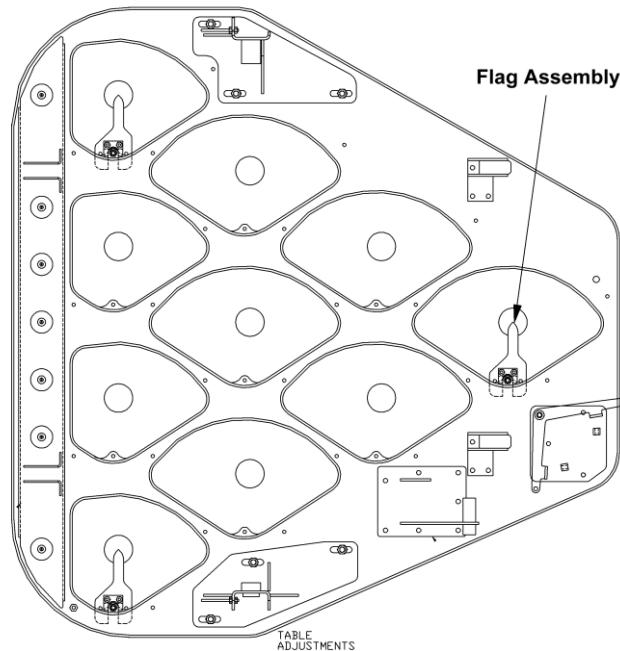

Figure 4.2-8
1. With the Table and Sweep at zero (home) and both motor plugs disconnected, install 3 flags on the Wing Brackets at the 1, 7, and 10-pin positions of the Table as shown in Figure 4.2-8.